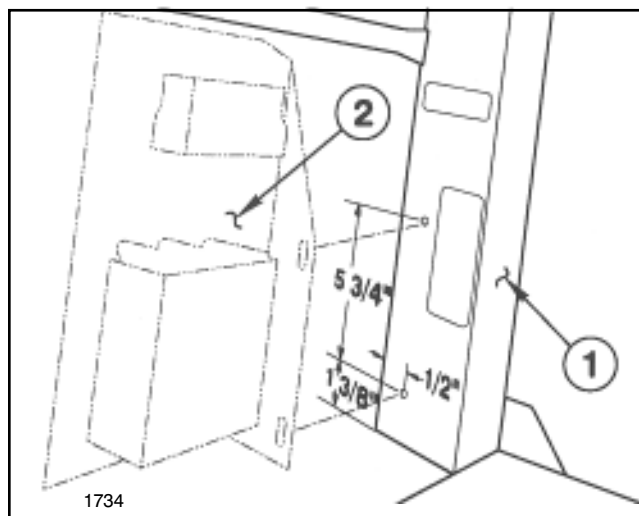

FIG. 1
1. Remove (15) screws and washers securing the Front Panel to Vehicle frame and remove Front Panel.
2. Locate and drill two (2) 3/8" holes in right Upright Post. See FIG. 1.